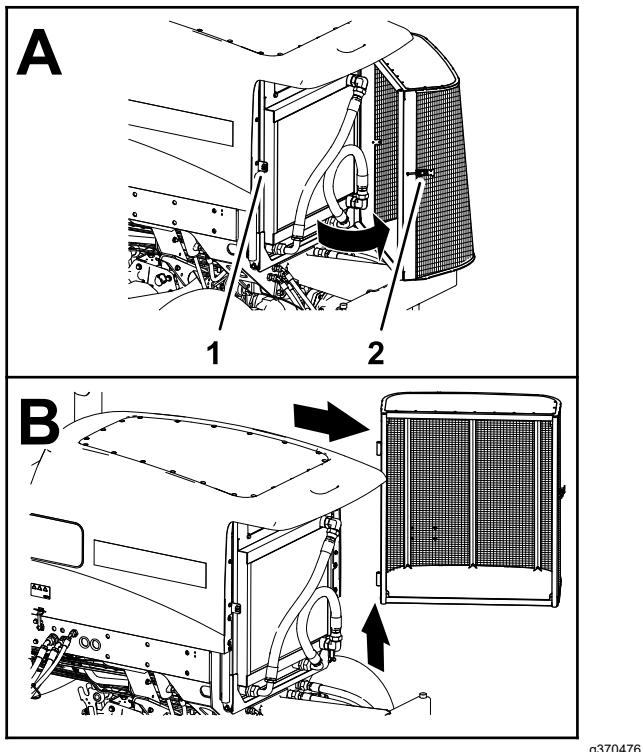

Figure 145
2. Unlatch and open the rear screen (Figure 145).